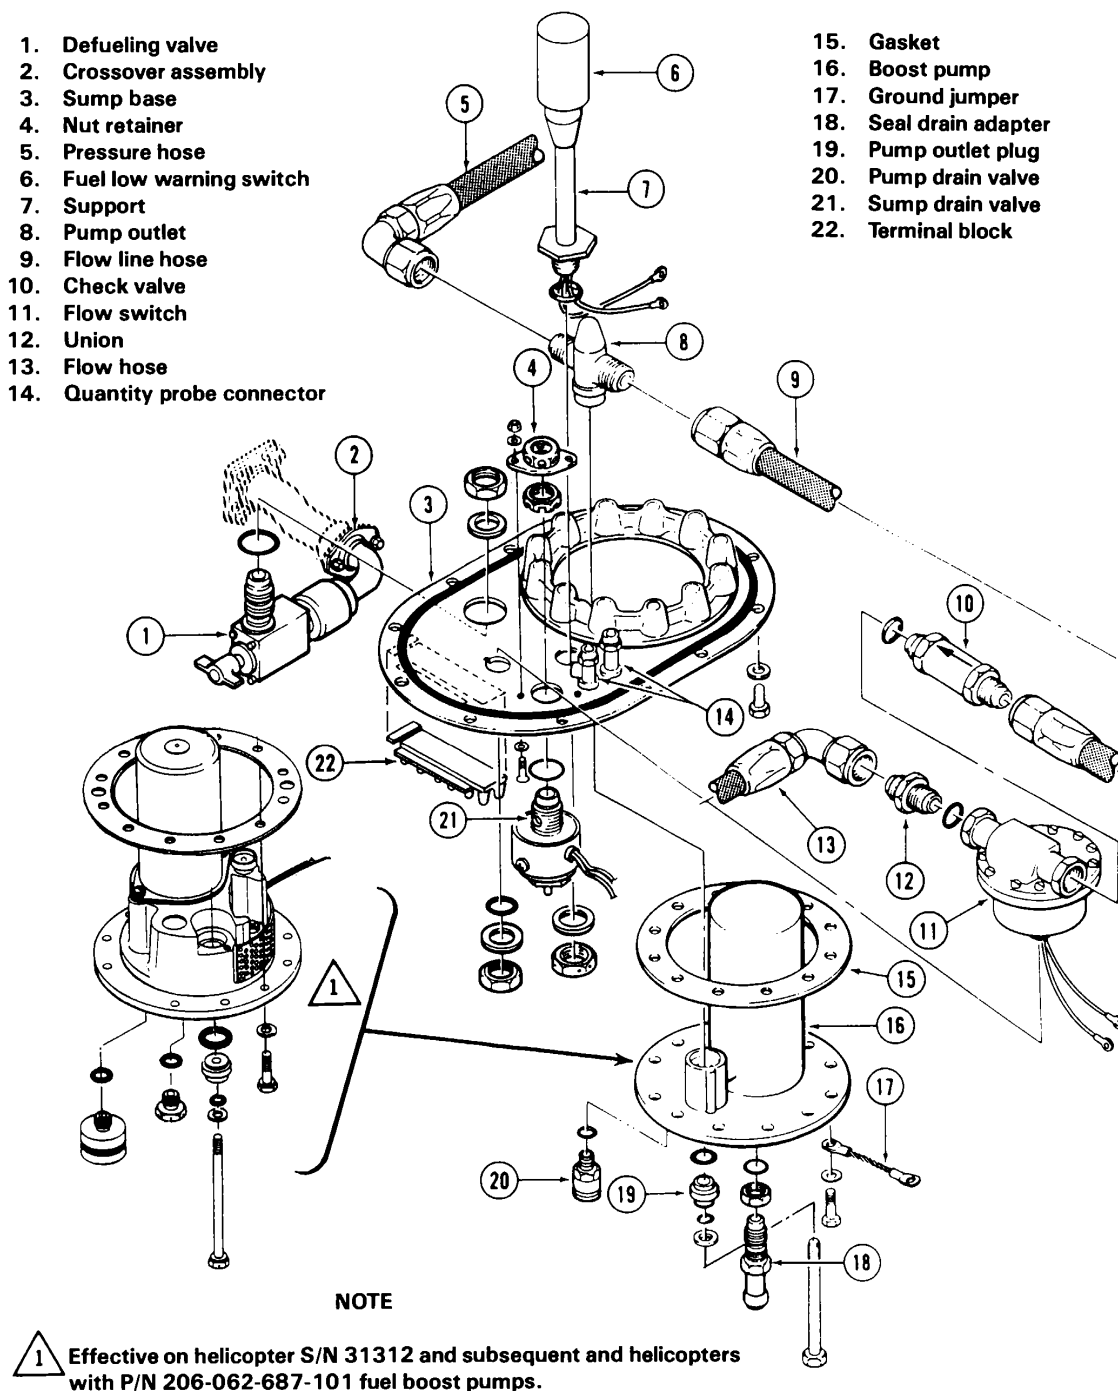

Figure 28-7. Fuel cell sump (left side typical)
28.12.3.4 Connect hose (13, Figure 28-7) to union (12) in outlet of flow switch (11).
28.13.1.2 Disconnect flow switch (11, Figure 28-7) electrical leads from terminal block (22).
28.13.2.1 If installing a replacement flow switch (11, Figure 28-7) remove shipping plugs and
28.14.1.2 Disconnect fuel line hose (9, Figure 28-7) from pump outlet (8).
The screen in S2490 pump outlet (8, Figure 28-7) is to be removed prior to installing fitting on pump.
28.18.1.2 Disconnect electrical leads of fuel low warning switch (6, Figure 28-7) from terminal block (22).
28.18.2.1 Place new packing on fuel low warning switch (6, Figure 28-7). Thread wires through support (7). Start and tighten switch.